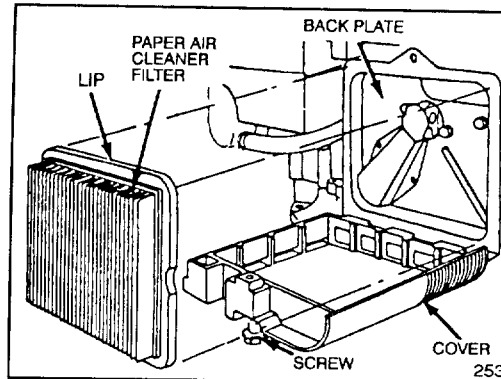

Figure 19
3. Remove paper air cleaner filter (Fig. 19) and discard.
4. Insert new paper air cleaner filter cartridge so lip touches back plate as shown in Figure 19.